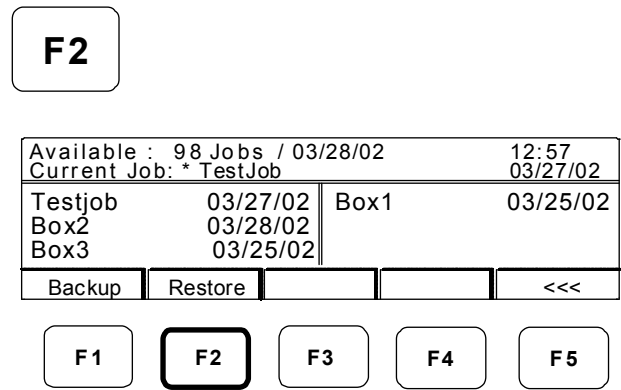

Figure 14-25. Job-Management Menu, screen 3
1. Press F5 (>>>) until the function 'Restore' appears above function key F2 in screen 3 of the job-management menu (see Figure 14-25). If there is no valid backup stored in Flash memory, the 'Restore' does not appear and the function cannot be executed.